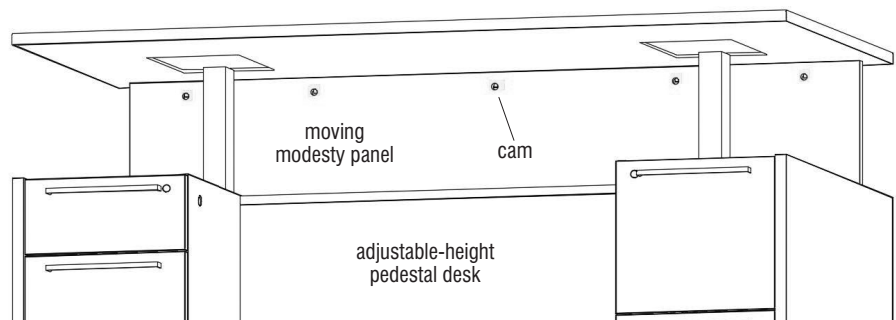

Figure 4
6. Press a cam cover into each cam hole on the modesty panel (Figure 4).